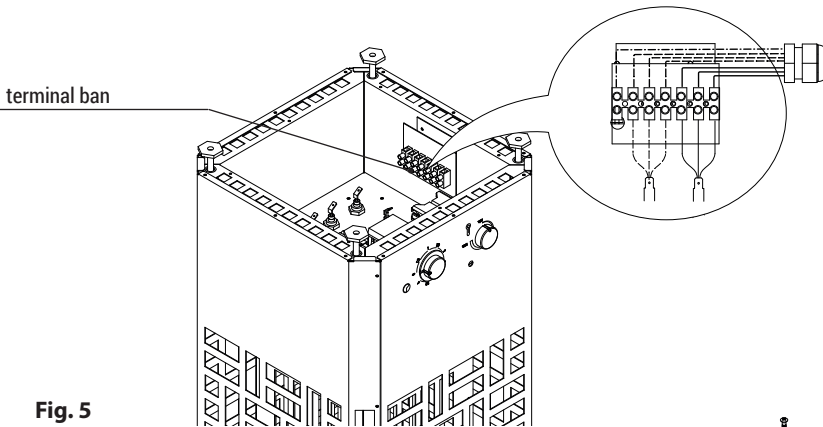

Fig. 5
- Make connections as per connection diagram (Fig. 5)